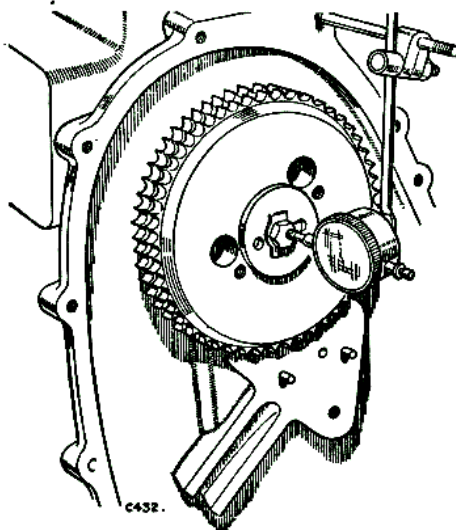

Fig. A-415—Checking camshaft end-float
2. Fit the front thrust plate and secure the camshaft chain wheel but do not bend up the locking tab for securing bolt at this stage. Check the camshaft end-float with a dial test indicator as illustrated by Fig. A-415 and ensure that the reading is within .0025 to .0055 in. (0,063 to 0,139 mm). Adjust by selective assembly of the front thrust plate.